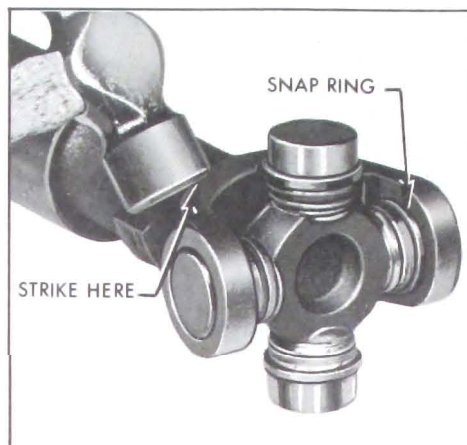

Figure 6-104—Seating U-Joint Snap Rings
4. Strike the yoke with a hammer to fully seat the snap rings against the yoke. Turn the spider to make certain that it is free. See Figure 6-104.